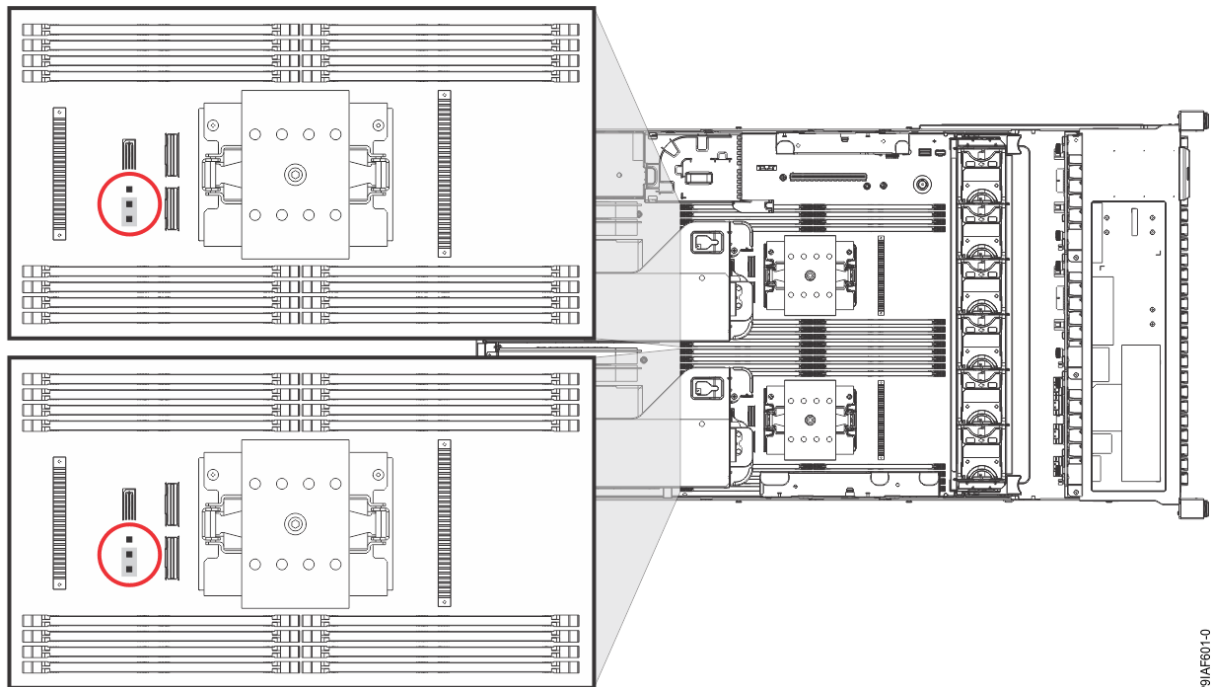
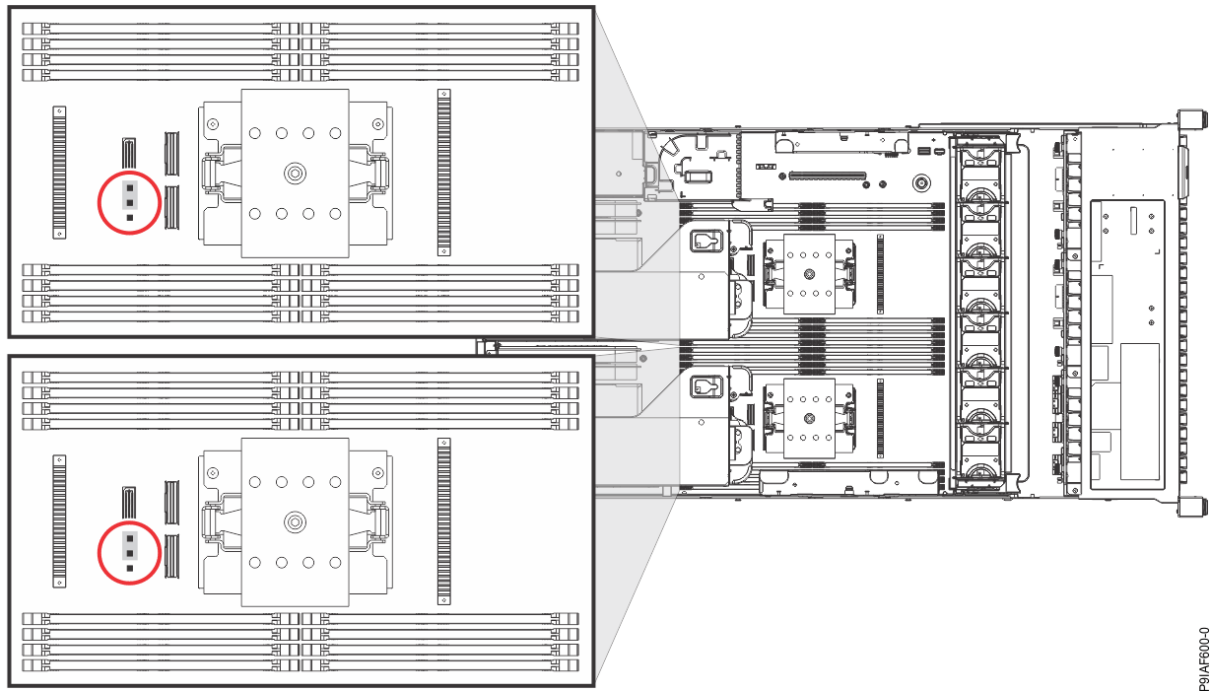

Figure 82. New system processor jumper positions
Figure 83. Original system processor jumper positions
12. Move the system processor jumpers on the system backplane from the new system processor jumper positions that are shown in Figure 82 on page 119 to the original system processor jumper positions that are shown in Figure 83 on page 120.